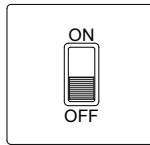

Figure 6
1. Turn off the power before beginning installation. (see Fig. 6)